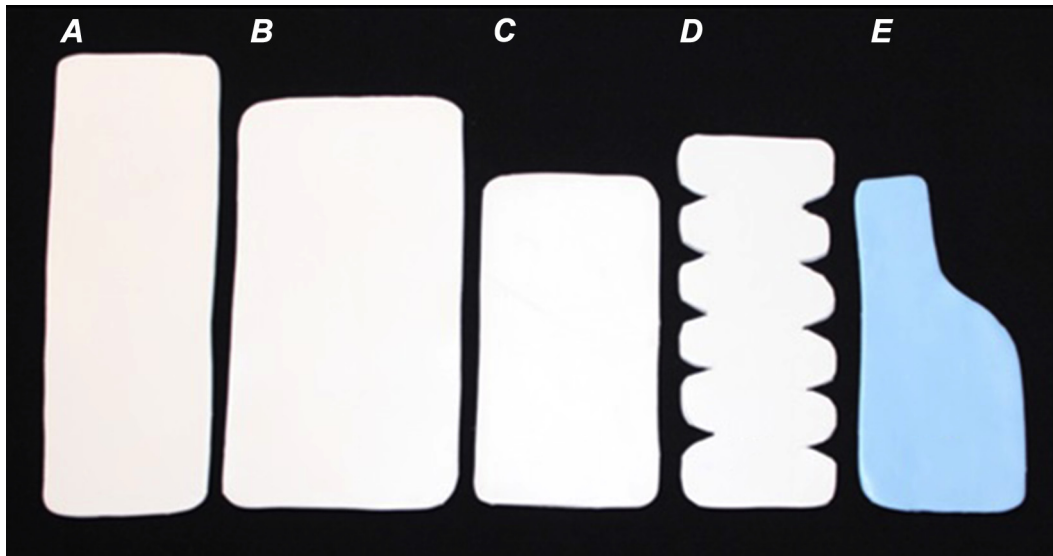

Fig. 1. Materials.
- Piece E (mobilization assist): should measure the width of the metacarpals (index through small), with an additional 1.5" on each side; the length should measure from the metacarpal heads to the base of the metacarpals (Fig. 1).